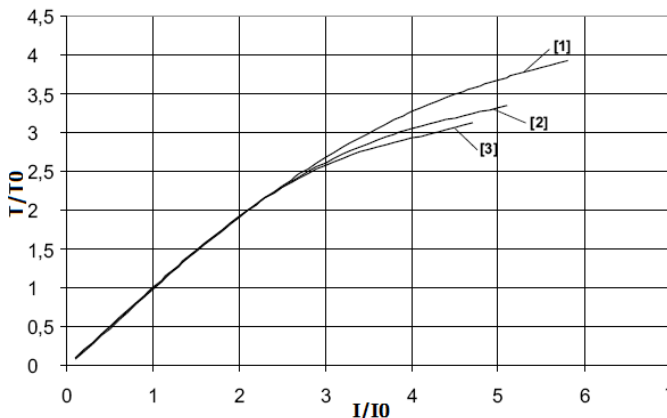

Fig. 3: Example of torque/current curves (3 motors)
- If the curves torque/current are not available, a linear relation is normally used (Fig.3)